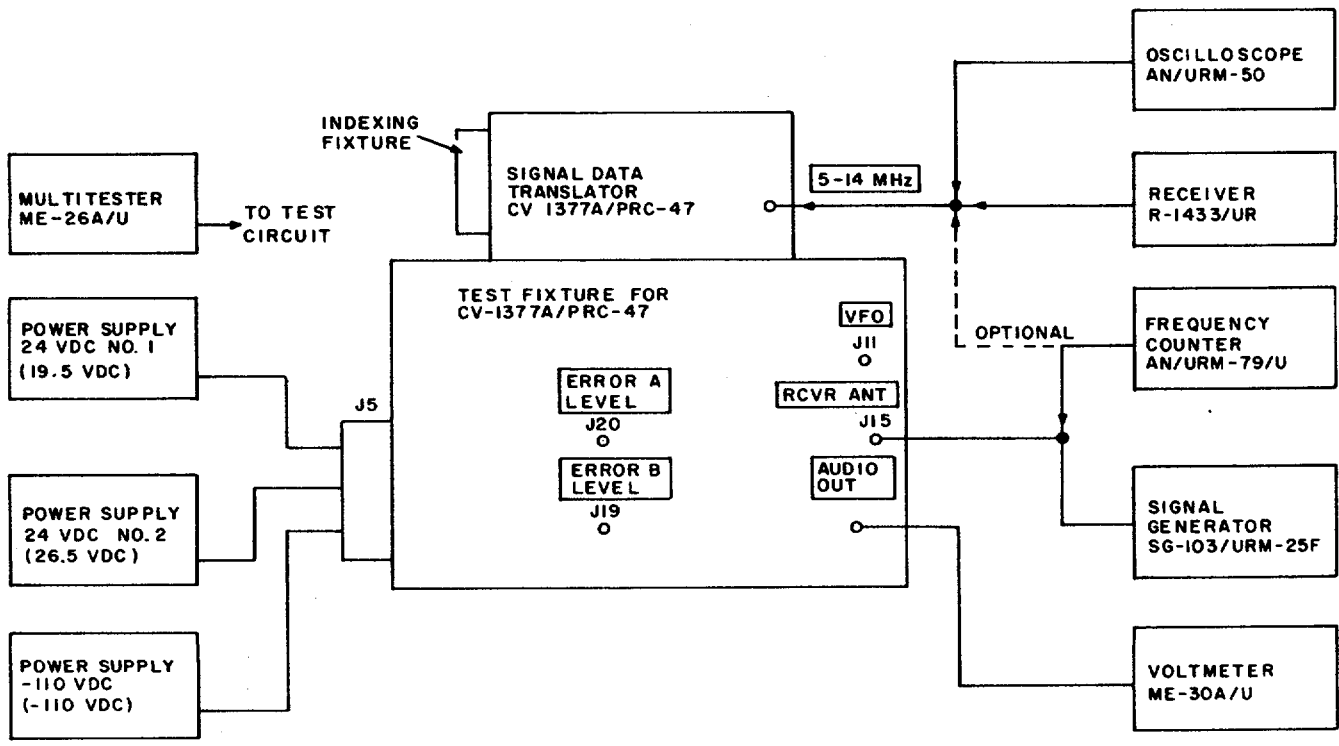

Figure 6-13. Signal Data Translator CV-1377A/PRC - 47 (A8A3), Performance Tests, Initial Test Equipment Connections.
(1) connect the test instruments to the test fixture as shown in figure 6-13. (The connections for the remaining test equipment are detailed in the appropriate procedural step below.)
(2) Before placing the CV-1377A/PRC-47 into the test fixture, remove the top and bottom covers from the module. Perform the mechanical alignment procedures (step c) if the slug rack or its associated inductors have been replaced.
(3) Place all switches on the test fixture to OFF and all of the controls to zero.
(4) Apply power to all test equipment and turn on each of them. Place the test fixture POWER ON-OFF switch to ON and reset the output of the power supplies to 19.0 ± 1.0 volts dc at connector J 1-3, 26.5 ± 1.5 volts dc at connector J 1-4, and -110 ± 3.5 volts dc at connector J5-E.
(5) Measure the output voltage at connector J3-1 and set potentiometer R6 of the test set to obtain 35 ± 1.0 volts dc.
(6) Place the AVC ON-OFF switch of the test fixture to ON and measure the output voltage at connector J3-4. Set potentiometer R8 on the test fixture to obtain 2.2 volts dc.
(7) After performing the mechanical alignment procedures of step c, replace the bottom cover on the CV-1377A/PRC-47, attach the indexing fixture to the drive coupling end of the module with the three knurled thumbscrews.